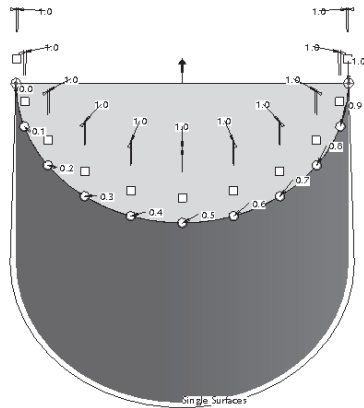

Figure 7-72 Location points on the edge
10. After adding eleven points, double-click on any of the location values that are present in the drawing area. The edit box appears; enter the value of **0** in this edit box. Similarly, locate all remaining ten points and increment them by 0.1. Figure 7-72 shows the model after locating all eleven points on the edge.